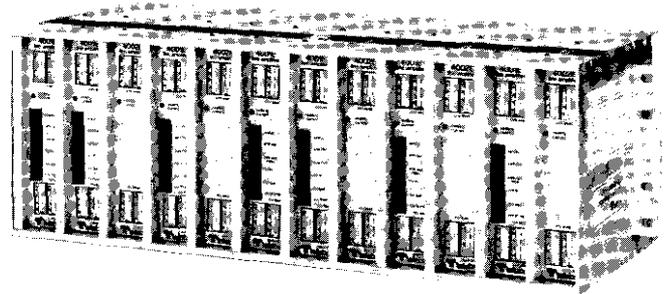

figure 1. 246 Resistive Data Bridge System
1.01 The Tellabs 246 Resistive Data Bridge (RDB) System (figure 1) provides active 4wire-common-port, 4wire-multiple-port bridging in multipoint voice-frequency (VF) data networks, i.e., in applications where VF data transmission takes place between a central computer and a number of remote data stations. Because it is modular, the 246 System can be arranged in a variety of ways to provide one or two independent bridge networks. The 246 RDB follows a conventional *split* bridge format, i.e., the common port of the bridge network is interfaced with several multiple ports through separate *splitter* and *combiner* channels. In the splitter channel, the common input port is connected to multiple output ports through a fixed-loss resistive network. In the combiner channel, inputs from the multiple ports are connected through a fixed-loss resistive network to the common output port.